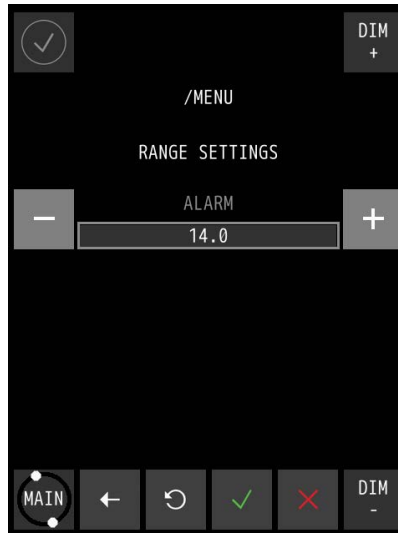

Figure 31: Range settings Enabled
2. Repeatedly touch the + button to change the ALARM value to the maximum working rudder angle. This value is the Rudder Alarm Indication for both port and starboard side. When the rudder angle is beyond this angle, say 14°, there will be a visible indication, see *Figure 31: Range settings Enabled* on page 36.